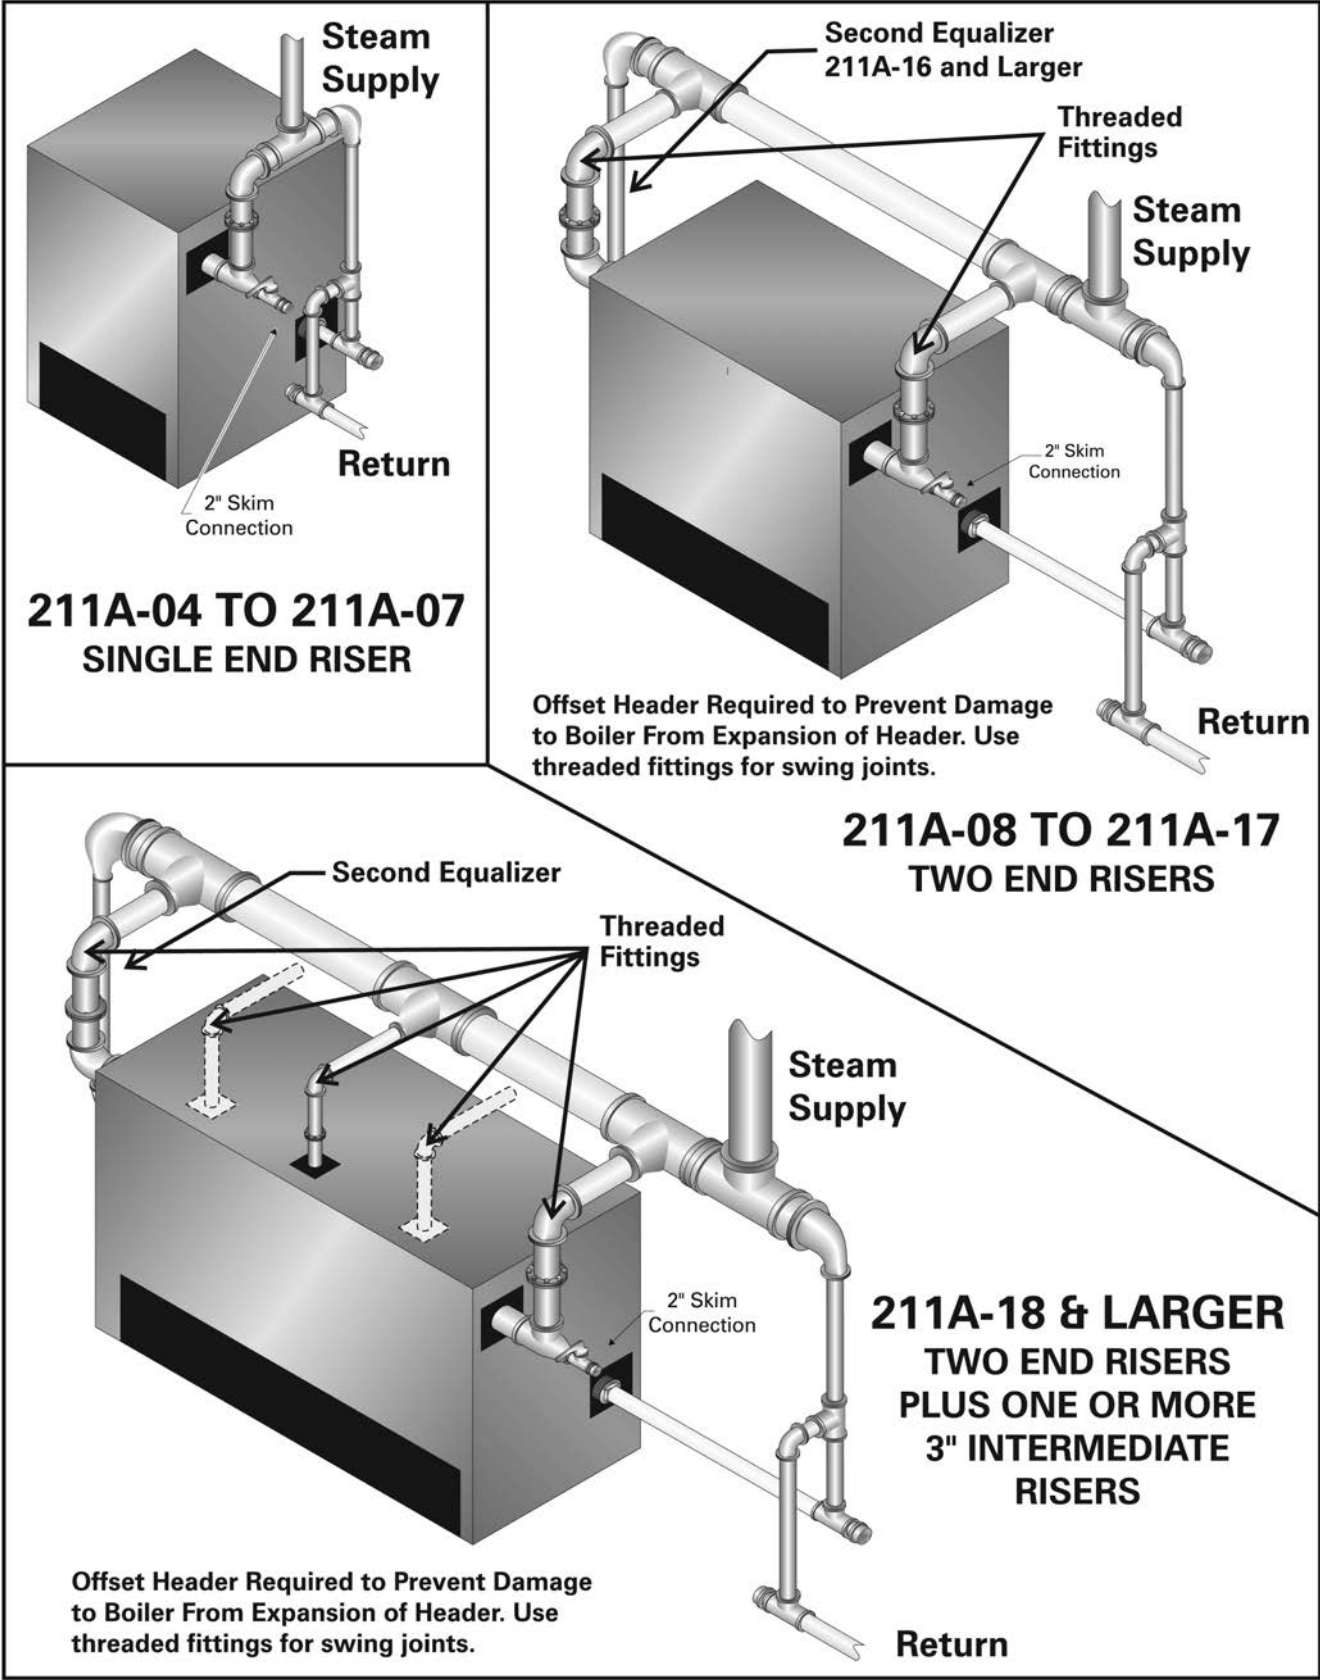

Figure 5.2: Supply and Return Piping – Pumped Return and Parallel Flow Gravity Systems
5. Figure 5.2 shows the Supply and Return piping for Parallel Flow Gravity systems and all Pumped Return Systems.